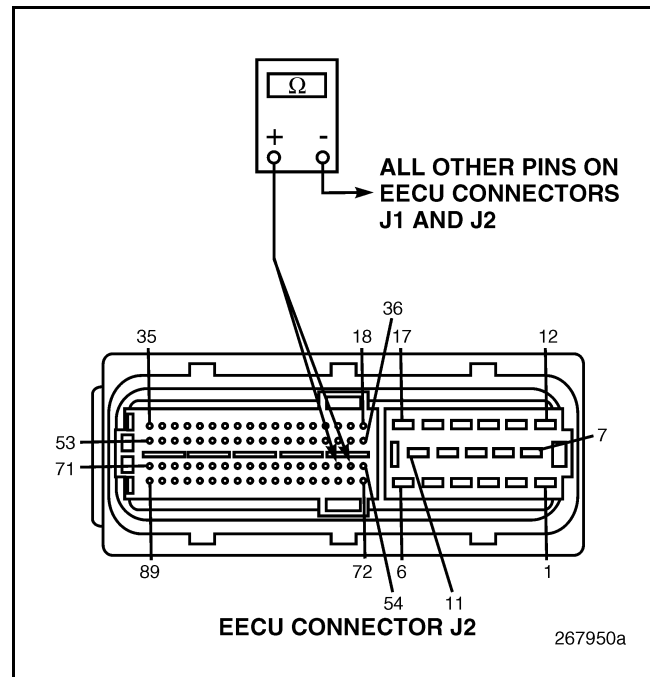

Figure 373
4. Check for continuity between the circuit (connector J2 pin 55 or 56) that showed continuity in test 32 and all other pins on EECU connectors J1 and J2 (see Figure 373).